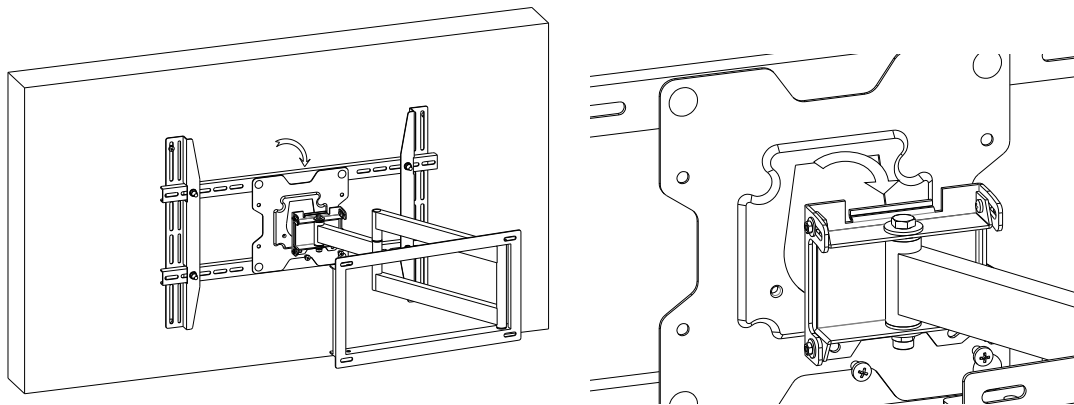

Figure 19
- Lift the TV Display (with the Hook Plate firmly attached to the back) and slide the Hook Plate in place on the Swing Arm (Figure 19). Replace the securing screws that were removed in Step 5.